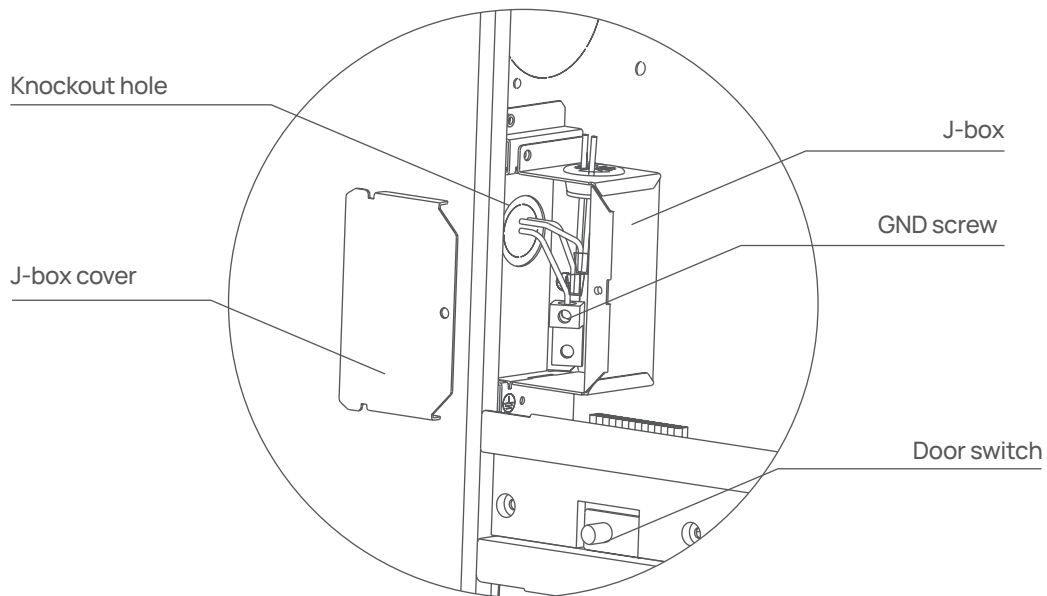

Fig. 45 – Field-Supplied Electrical Box on Furnace Casing
See Fig. 45 for field wiring diagram showing typical field 115-v wiring. Check all factory and field electrical connections for tightness. Field-supplied wiring shall conform with the limitations of 63_F (33_C) rise.
5. As shown in Fig.45, connect the on-site grounding wire to the green grounding copper joint inside the J-Box
6. Connect power cord power and neutral leads to furnace power leads as shown in Fig. 45.
7. Reinstall cover to J-Box with the 1 screws saved in step 1. Do not pinch wires between cover and bracket. See Fig. 45.
1. Remove cover from furnace J-Box and Keep 1 removed screws. See Fig. 45.
4. Connect field ground wire and factory ground wire to green ground screw on J-Box mounting bracket as shown in Fig.45.
5. Connect field power and neutral leads to furnace power leads. as shown in Fig. 45.
6. Reinstall cover to J-Box with the 1 screws saved in step 1. Do not pinch wires between cover and bracket. See Fig. 45.
1. Maintain 115V wiring and ground. Improper polarity will result "E4" fault and no furnace operation. (See Fig. 45)